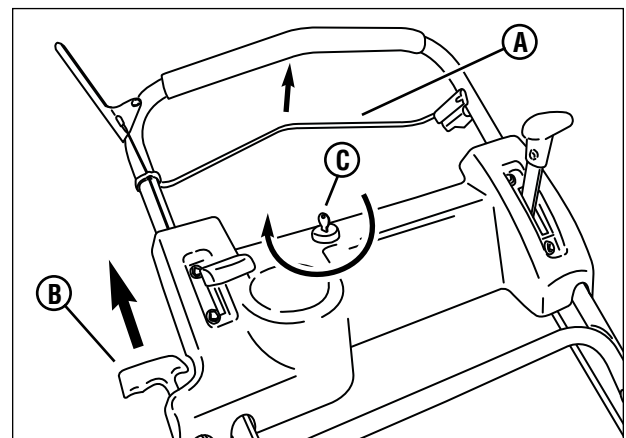

Figure 4: Starting the mower
3. Pull the blade control (**A, Figure 4**) against the handle.
2. Pull the blade control (**A, Figure 4**) against the handle.